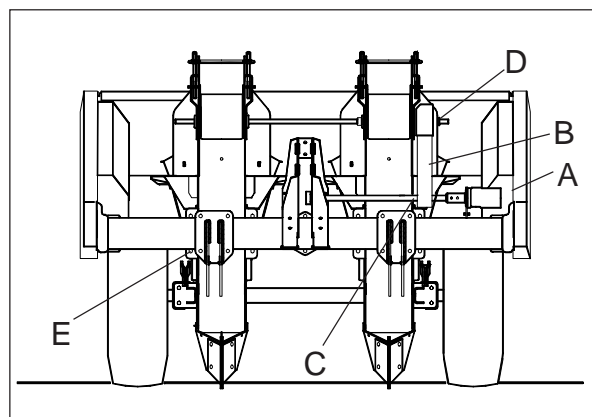
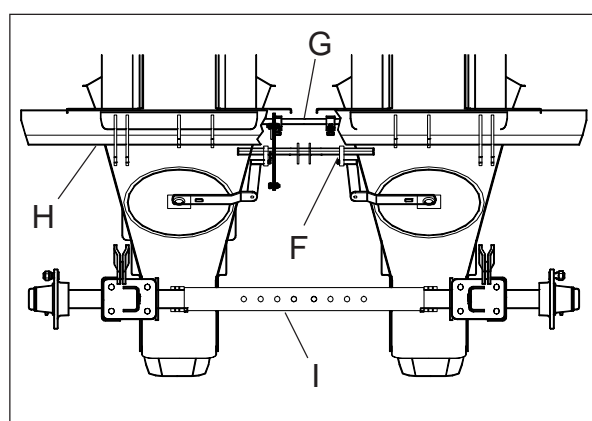

Fig. 21
Fig. 22
When moving the driving unit (Fig. 21/ A) the upper drive chain cassette (B) position is close to the planting tube. Move the lower sprocket on the shaft from the motor (lock with set screw C on the flat shaft surface). The upper sprocket is locked on the hexagonal drive shaft by means of stop rings (D). Before row width adjustment can be made, loosen all connections between the row units (E) and the main frame, and the hexagonal drive shaft (Fig. 22/F) for agitation discs, the squared shaft (G) connecting the choke plates, the bar (H) and finally the telescopic wheel shaft (I) should be loose. Make sure that the wheel shaft is locked at correct track width.